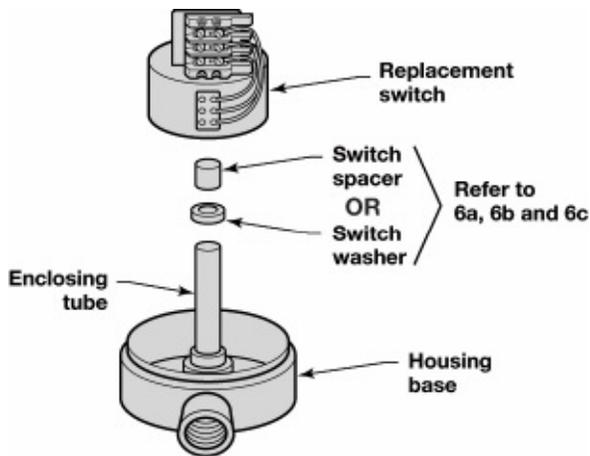

Figure 10
- b. **If replacing a single switch which used a baffle plate:** Lift the entire switch assembly and the baffle plate off the enclosing tube. Retain baffle plate for identification of type. Discard the switch assembly. Refer to Figure 10.